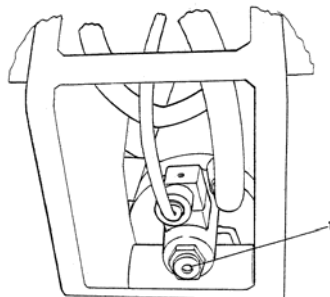

Fig.15
Keep depressed the button on the rear of the cylinders using for example Allen key 4 (ref.1 fig.15). When this is pressed on one of the cylinders it will descend. Make sure both sides descend evenly.